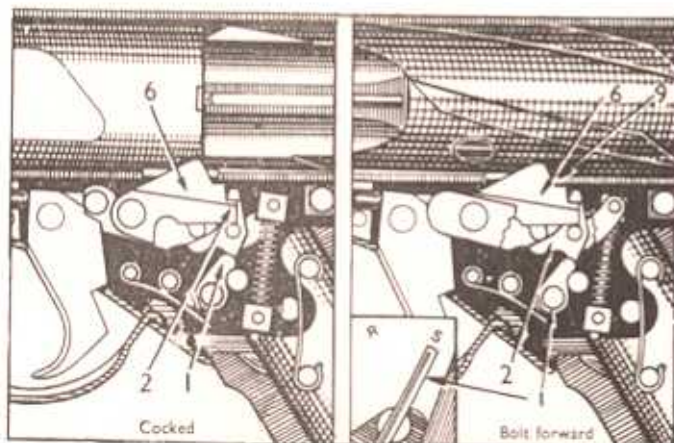

Fig. 7. Applied Safety
5.3 APPLIED SAFETY (Fig. 7, Cocked). When with the weapon cocked, the change lever (1) is set at safe S the inner arm of the change lever is positioned directly under the short arm of the tripping lever (2). When the trigger is pressed the sear cradle and sear (6) cannot be depressed because the short arm of the tripping lever is held immovable by the inner arm of the change lever.
(Fig. 7, Bolt forward). When with the bolt forward, the change lever (1) set at safe S, the weapon cannot be cocked because the sear (6) is engaged in the safety slot (9) at the rear of the bolt, and the sear cannot be depressed because it is held immovable as described in previous paragraph.